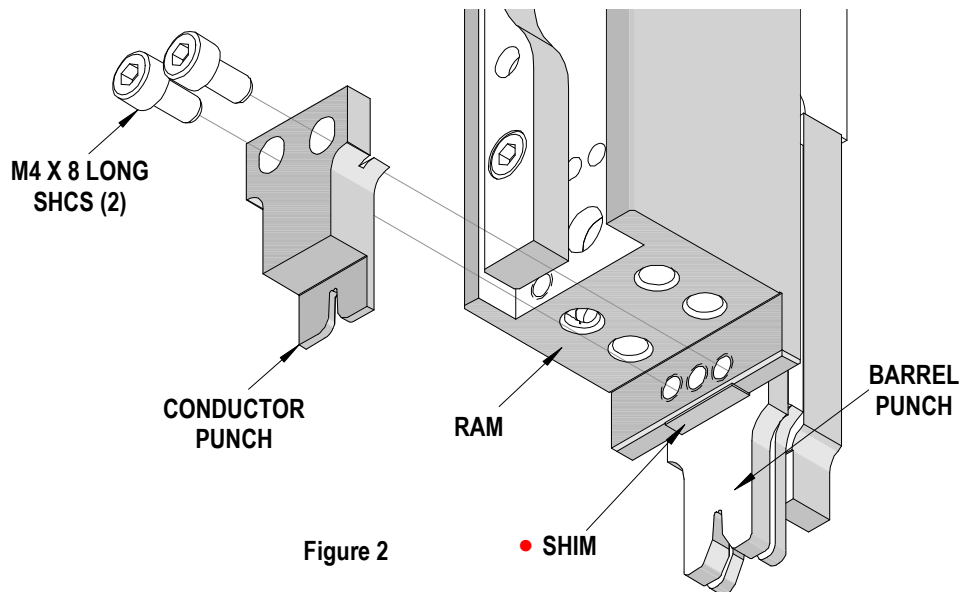

Figure 2
5. To achieve the conductor crimp height (D dimension in Figure 1) for 22 and 24ga wire, a 0.25mm (.010") thick shim is required if your crimp press is not equipped with adjustable shut height. This shim is not supplied with the applicator. The shim should be located between the Ram and the Conductor Punch. See Figure 2.